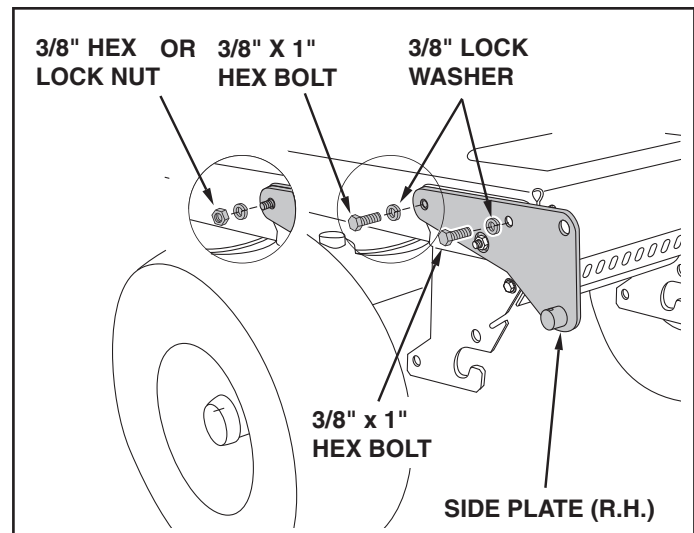

FIGURE 2 RIGHT SIDE VIEW
- Attach the front of the side plate to the threaded hole in the tractor frame using a 3/8" x 1" hex bolt and a 3/8" lock washer. Attach the rear of the R.H. side plate to the tractor using either a 3/8" x 1" hex bolt and lock washer or a 3/8" hex lock nut and lock washer. Repeat for the L.H. side. See figure 2.